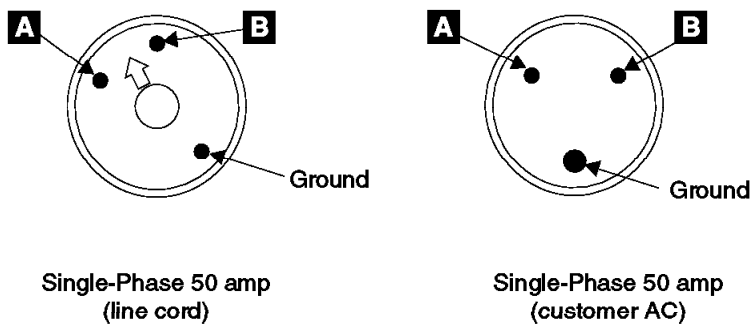

Figure 91. Single Phase Female Connector on the Mainline Power Cable (5007100I)
- For single-phase AC see Table 10 and Figure 91.
- **For the mainline power cable (wired):** Measure ac voltages at the female connector on each mainline power cable. See Table 11 and Figure 91.